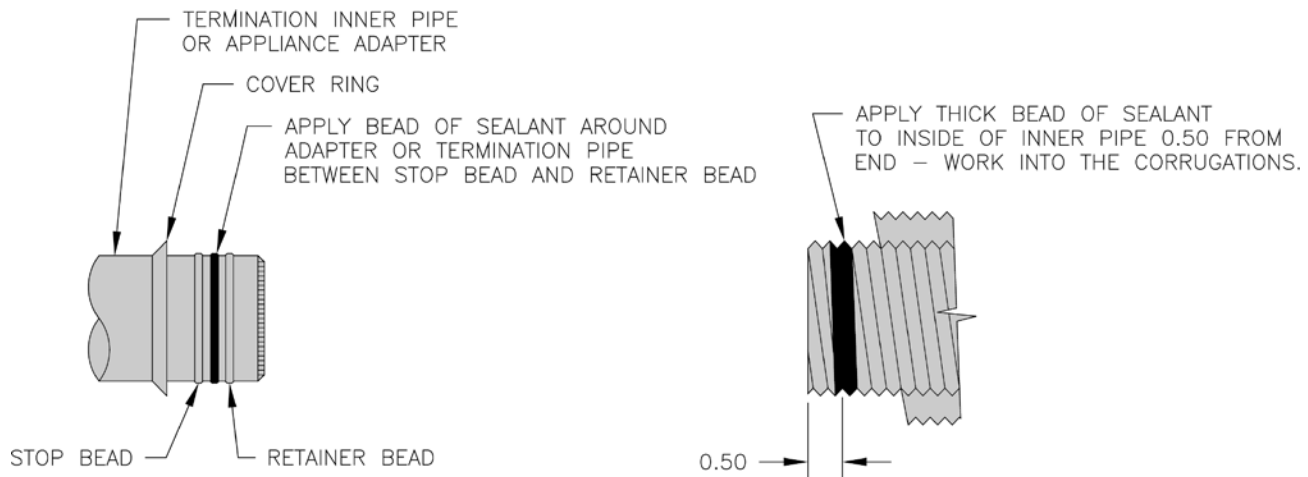

Figure 23: Vent Pipe Ends, Vent Termination and Appliance Adapter Sealing
7. Apply sealant; firstly, between the stop bead and retainer bead at the end of the vent termination inner pipe; secondly, between the stop bead and retainer bead at the end of the appliance adapter. See Figure 23.
10. Apply a thick bead of sealant to inside of each end of the inner vent pipe, 1/2" from pipe end, working the sealant into the inner vent pipe corrugations. See Figure 23.